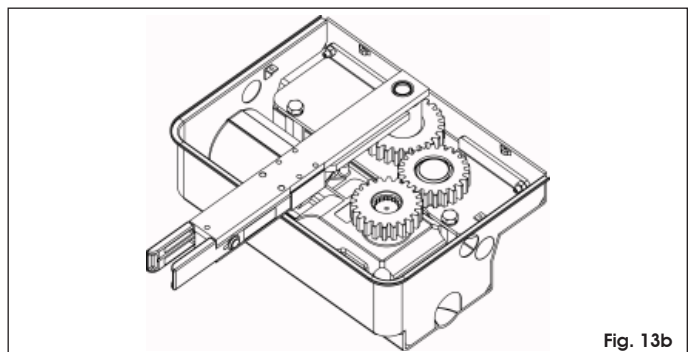

Fig. 13b
**👉 In order to determine the exact position of the operator, gear plate for 180° opening (Fig. 13b) and the required settings, please refer to the instructions enclosed.**